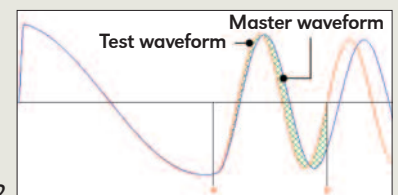

Figure 2
2. Differential area comparison (Figure 2)